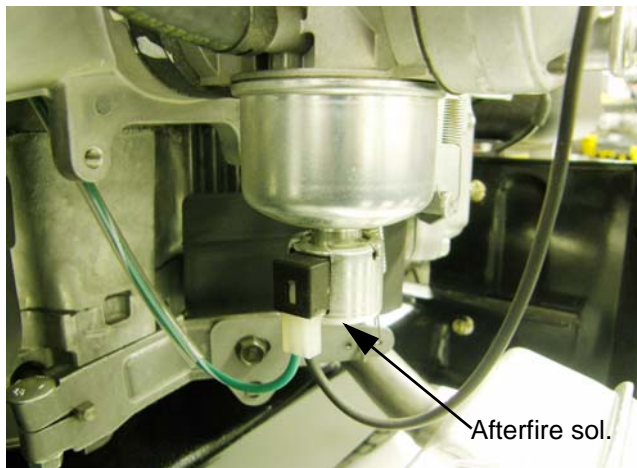

Figure 7.10
2. There is an **afterfire solenoid** on the carburetor. When it is energized, fuel flows normally through the carburetor. When it is not energized, it closes off the fuel flow through the main jet of the carburetor. The purpose of the solenoid is to prevent unburned fuel from being pumped through the engine after the ignition is turned off. This unburned fuel accumulates in the muffler and may ignite with an alarming noise. See Figure 7.10.